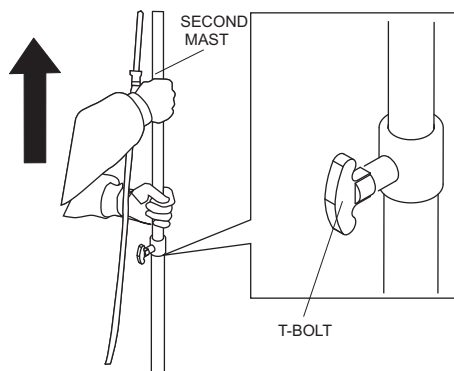

Figure 23. Raising the Second Mast
1. Raise the second mast to the desired height and tighten the T-bolt securely. See Figure 23.